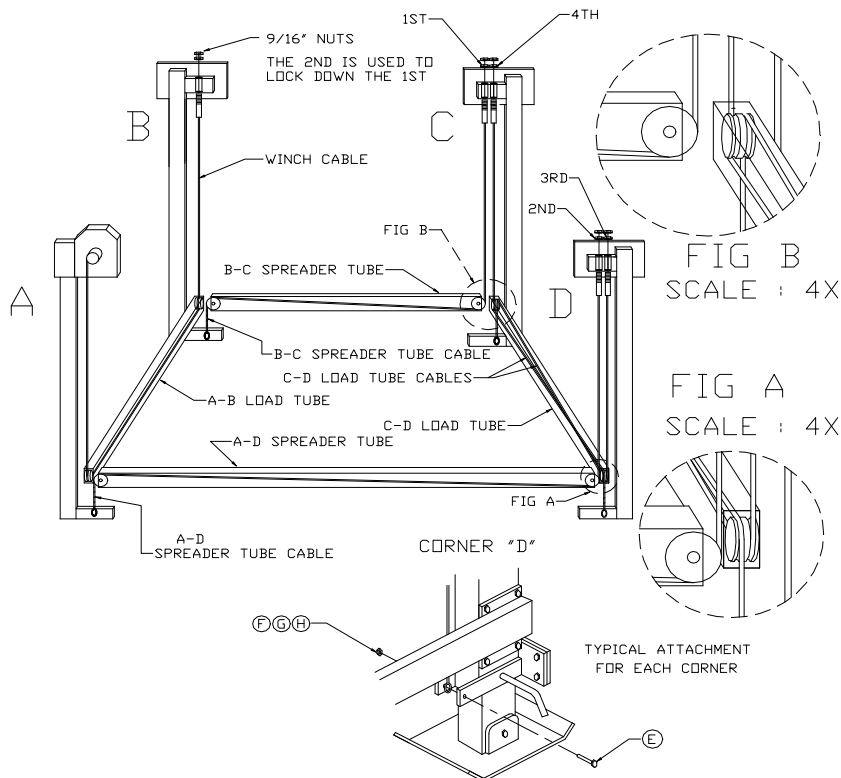

Figure 3-8.
2. Refer to Figure 3-8. The load and spreader tubes are already reeved. Fasten the cable end loops to the bracket provided at the bottom of each of the four vertical legs. Do not overtighten!
3. Using a 7/8" open-end wrench, tighten the cable studs opposite the cable end loops in the following order. The following step numbers correspond to the step numbers shown in Figure 3-8.
7. Refer to Figure 3-8. Tighten down the nut to fasten the A-B load tube cable stud to leg B. Add and tighten a jam nut to the cable nut to lock the position.